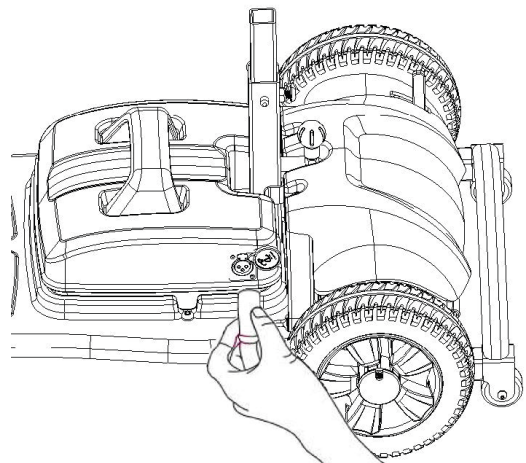

Fig 6.1
3. Pull upward on the swivel-release lever to remove the seat from the seat post. Remove the plug of power cable from the battery pack. (See Fig. 6.1)